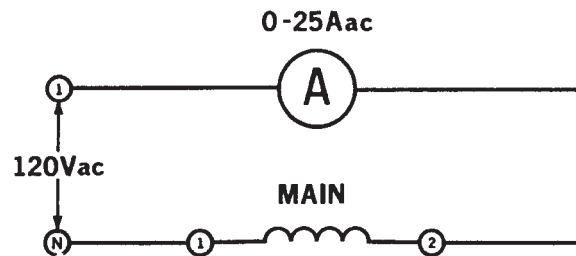

Figure 11-1.
- 1. Using your Capacitor-Start Motor, Power Supply, and AC Ammeter, connect the circuit shown in Figure 11-1. Note that the fixed 120 V ac output of the power supply, terminals 1 and N are being used.